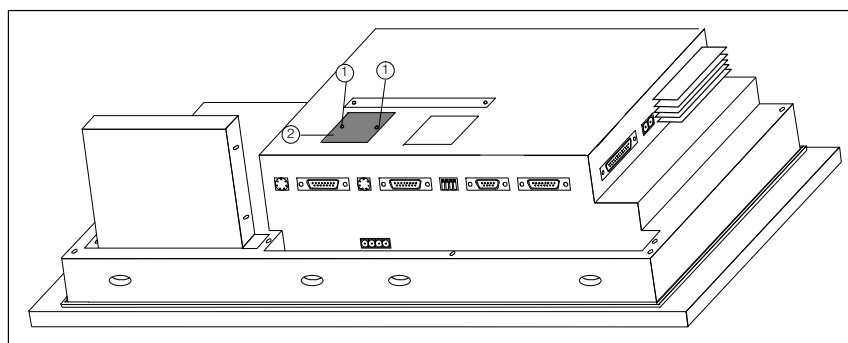
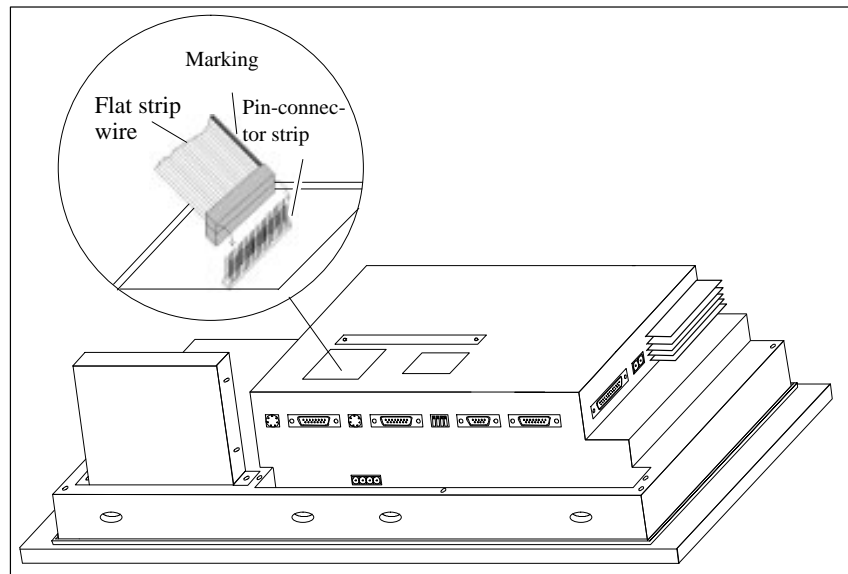

Figure 5-4 Removing the cover plate
Figure 5-5 Insert the plug of the direct key module
2. Release the two rivets ^① and remove the cover plate shown in Figure 5-4 with the number ^② from the back of the OP.
3. Insert the plug of the direct key module into the socket (refer to Figure 5-5) located beneath the cover ② (see Figure 5-4).